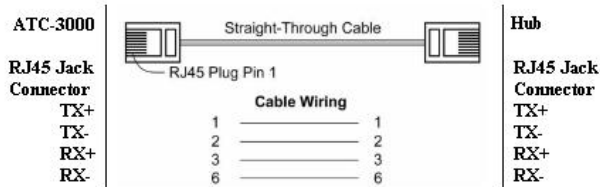

Figure 1
■ Connect an Ethernet cable to ATC-3002 unit if connecting to a switch or cross-over direct to the PC as Figure 1.